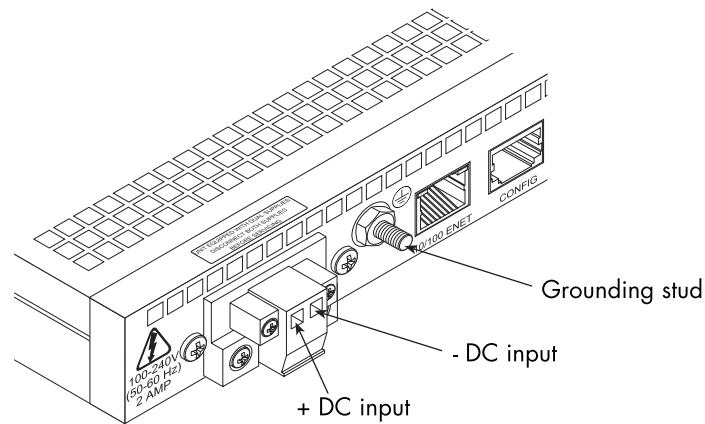

Figure 7. DC connector, - DC and + DC Input view
Note While looking into the DC power connector, the +DC input is on the right and the -DC input is on the left (see figure 7).
2. Install the ground wire between the grounding stud (see figure 7) and the grounding source.